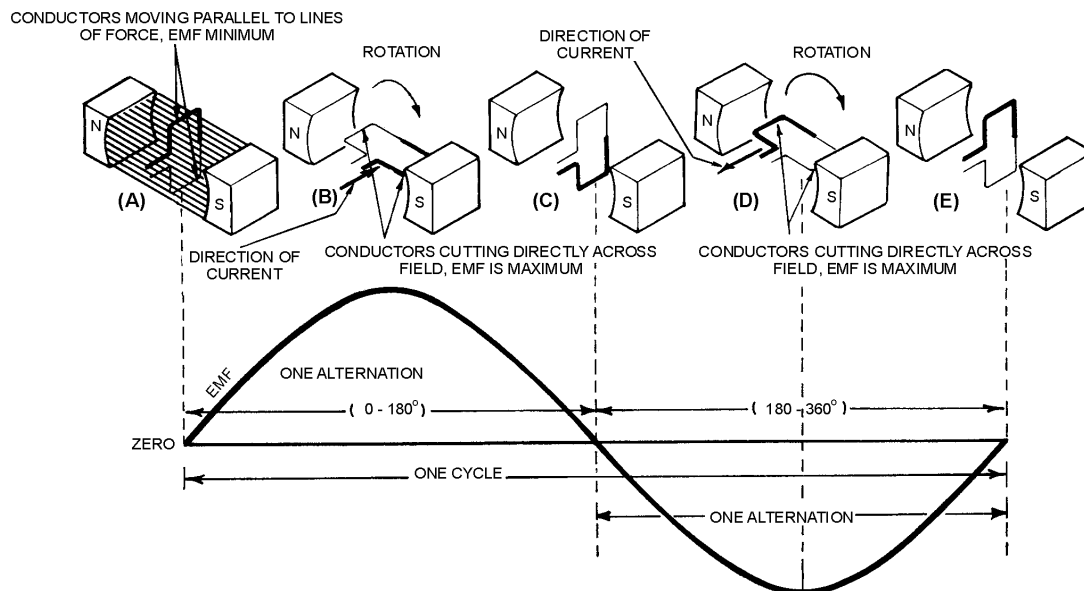

Figure 1-8.—Basic alternating-current generator.
By applying the left-hand rule to the dark half of the loop in (B) in figure 1-8, you will find that the current flows in the direction indicated by the heavy arrow. Similarly, by using the left-hand rule on the light half of the loop, you will find that current therein flows in the opposite direction. The two induced voltages in the loop add together to form one total emf. It is this emf which causes the current in the loop.
When the loop rotates to the position shown in (D) of figure 1-8, the action reverses. The dark half is moving up instead of down, and the light half is moving down instead of up. By applying the left-hand rule once again, you will see that the total induced emf and its resulting current have reversed direction. The voltage builds up to maximum in this new direction, as shown by the sine curve in figure 1-8. The loop finally returns to its original position (E), at which point voltage is again zero. The sine curve represents one complete cycle of voltage generated by the rotating loop. All the illustrations used in this chapter show the wire loop moving in a clockwise direction. In actual practice, the loop can be moved clockwise or counterclockwise. Regardless of the direction of movement, the left-hand rule applies.
If the loop in the figure 1-8 (A) makes one complete revolution each second, the generator produces one complete cycle of ac during each second (1 Hz). Increasing the number of revolutions to two per second will produce two complete cycles of ac per second (2 Hz). The number of complete cycles of alternating current or voltage completed each second is referred to as the FREQUENCY. Frequency is always measured and expressed in hertz.